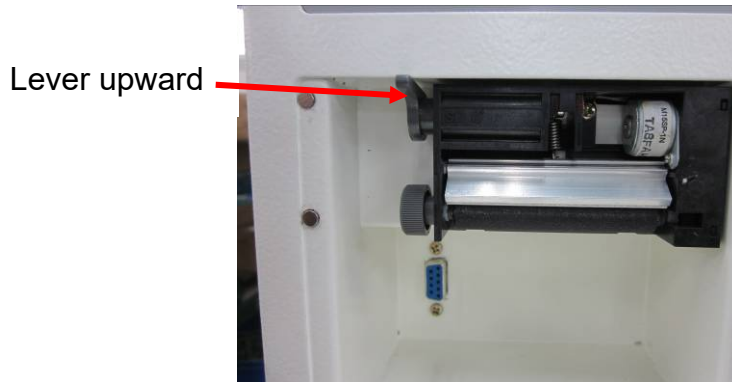

Figure 162
D. Position the lever in the “upward position” as shown in Figure 162.